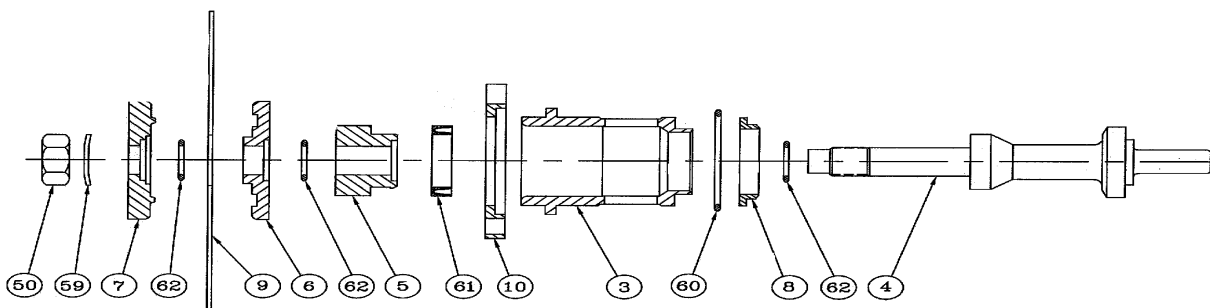

FIGURE 1
- d) Remove the complete inner trim by pulling up on the valve stem. The inner trim resembles the trim shown in **Figure 1**.